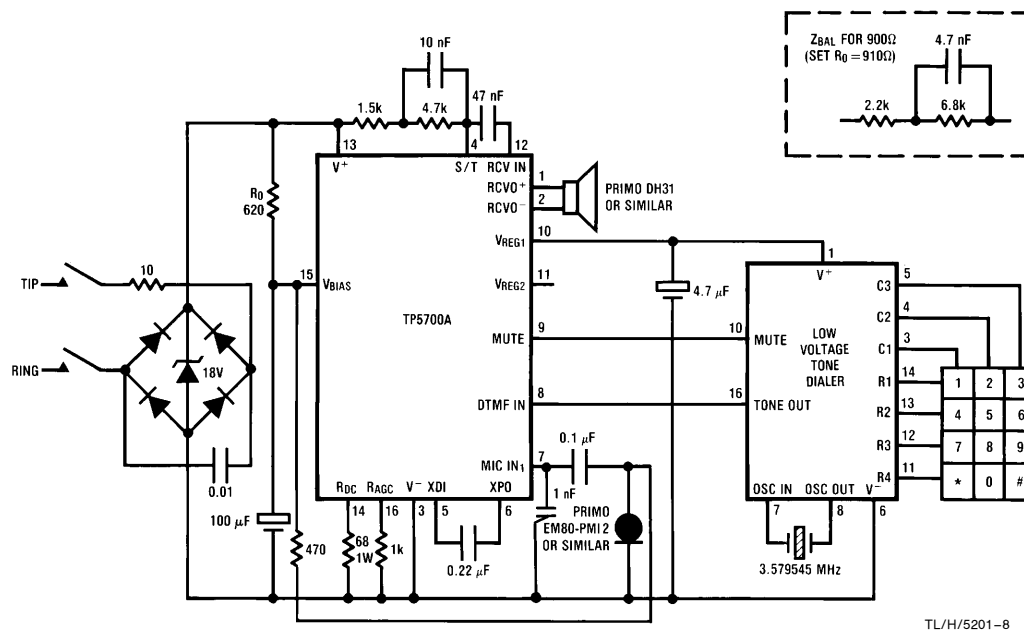

FIGURE 4. Typical Tone Dialing Telephone
3. V_{BIAS} (pin 15) may be used as a decoupled, but unregulated, supply for electrets requiring a higher operating voltage than V_{REG1} or V_{REG2} . The additional current drawn through R_0 will, however, raise the minimum operating voltage of the Speech Circuit. If this method is used the decoupling capacitor must be increased to at least 100 μ F to maintain good low frequency return loss. (See Figure 4.)
Figure 4 shows the TP5700 directly interfacing to a low voltage DTMF generator. V_{REG1} supplies the necessary 2V minimum bias to enable the low voltage tone dialer to sense key closures and pull its MUTE output high. V_{REG1} then switches to a 3V regulated output to sustain the Tone Dialer during tone generation. The TP5700A DTMF input incorporates the necessary load resistor to V^- and provides gain plus AGC action to compensate for loop length. A muted tone level is heard in the receiver. For DTMF generators with a higher output level, a resistive potentiometer should